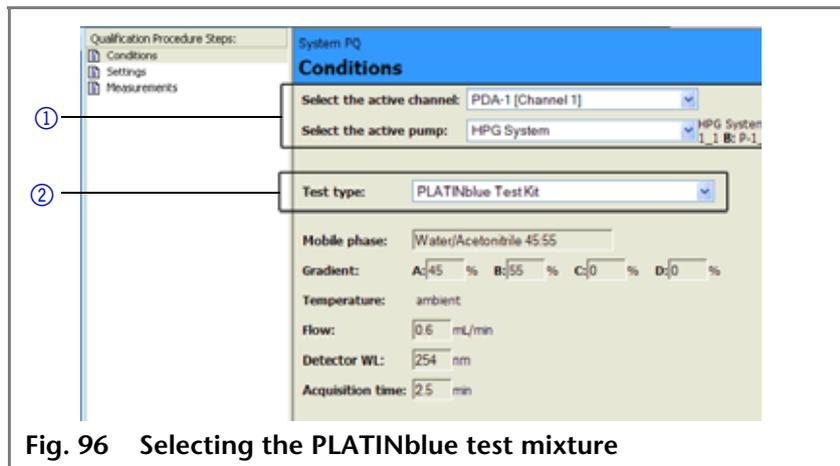

Fig. 96 Selecting the PLATINblue test mixture
1. In the *Conditions* window, choose the boundary conditions of the system for the detector and pump, e.g., channel measurement on the PDA-1 or MW-1 detector at 254 nm (see fig. 96).